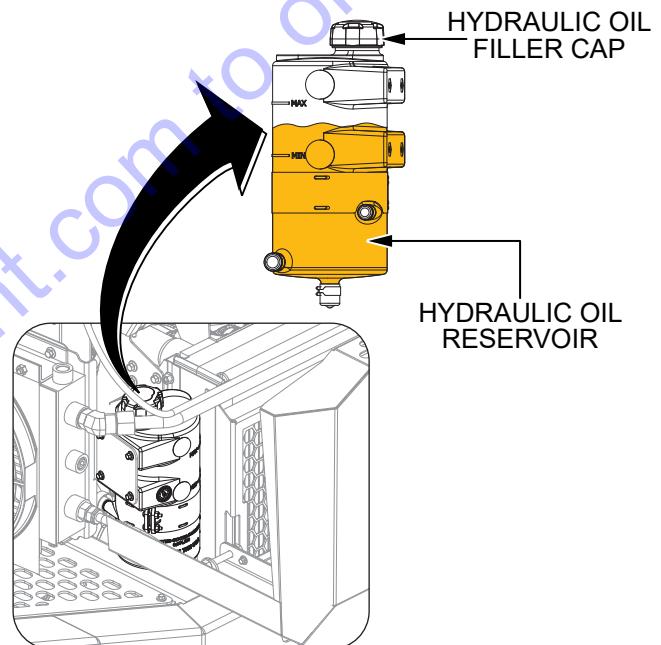

Figure 25. Hydraulic Oil Level Inspection
2. Visually inspect the level of hydraulic oil in the hydraulic oil reservoir (Figure 25). Hydraulic oil should be visible between the **MIN** and **MAX** lines on the reservoir.
3. If the hydraulic oil level is low, remove the hydraulic oil filler cap (Figure 25) and add hydraulic oil up to a level midway between the **MIN** and **MAX** lines on the reservoir. **DO NOT** overfill. Replace the cap when finished.